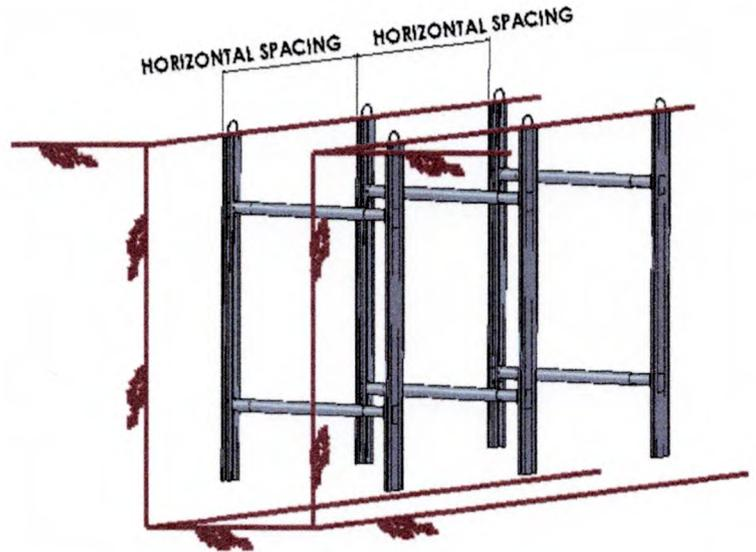

Figure 10 - Horizontal
Step 3 - Determine horizontal shore spacing (Figure 10)